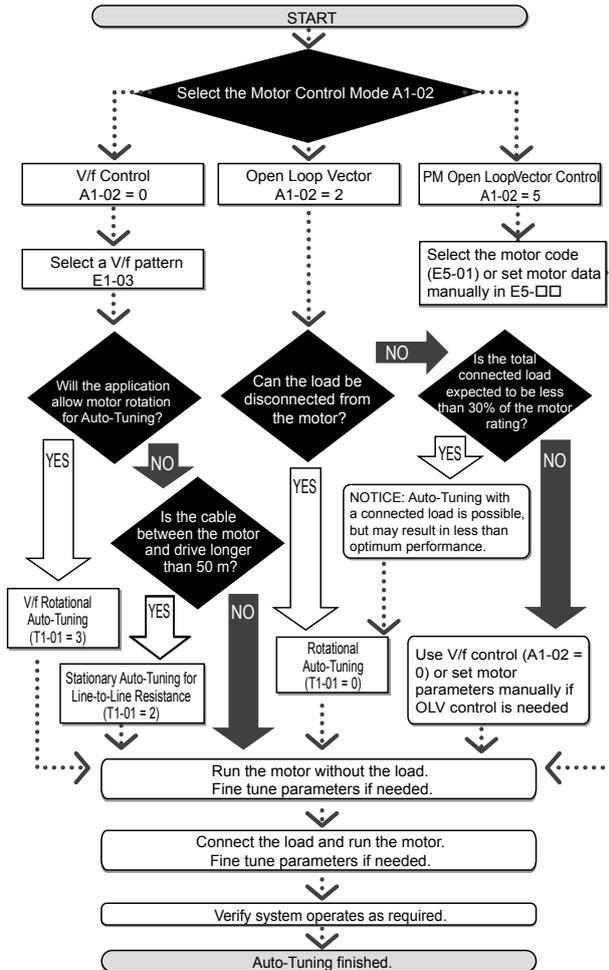

Figure 4.15 Auto-Tuning Selection
2. Determine which type of Auto-Tuning best fits the application requirements following *Figure 4.15*.